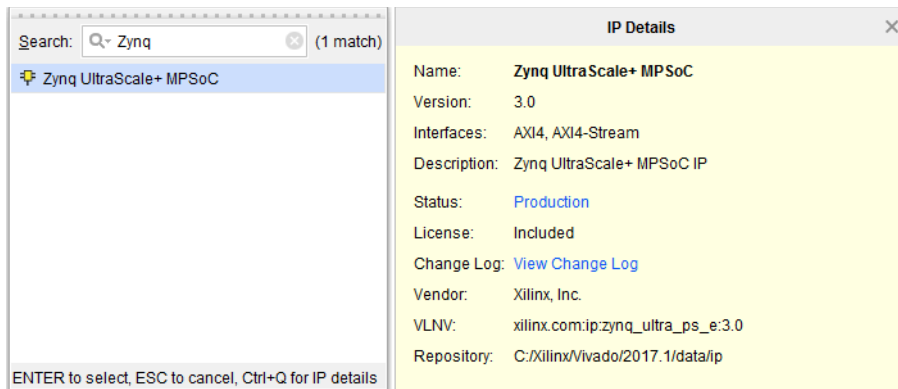

Figure 2-3: Search for Zynq UltraScale+ MPSoC in the IP Catalog
3. Select the **Add IP** option, and a Search box opens where you can search for, and select the **ZYNQ UltraScale+ MPSoC**, shown in Figure 2-3.